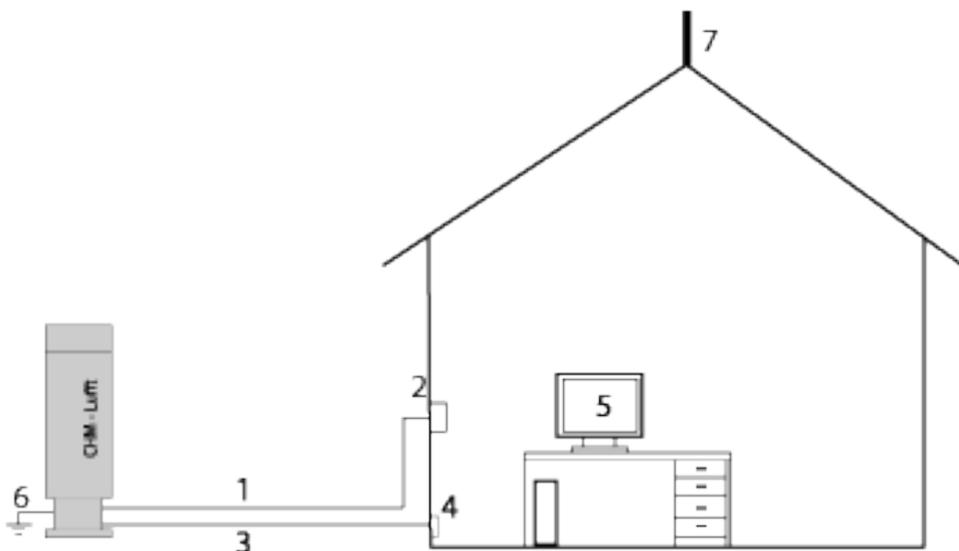
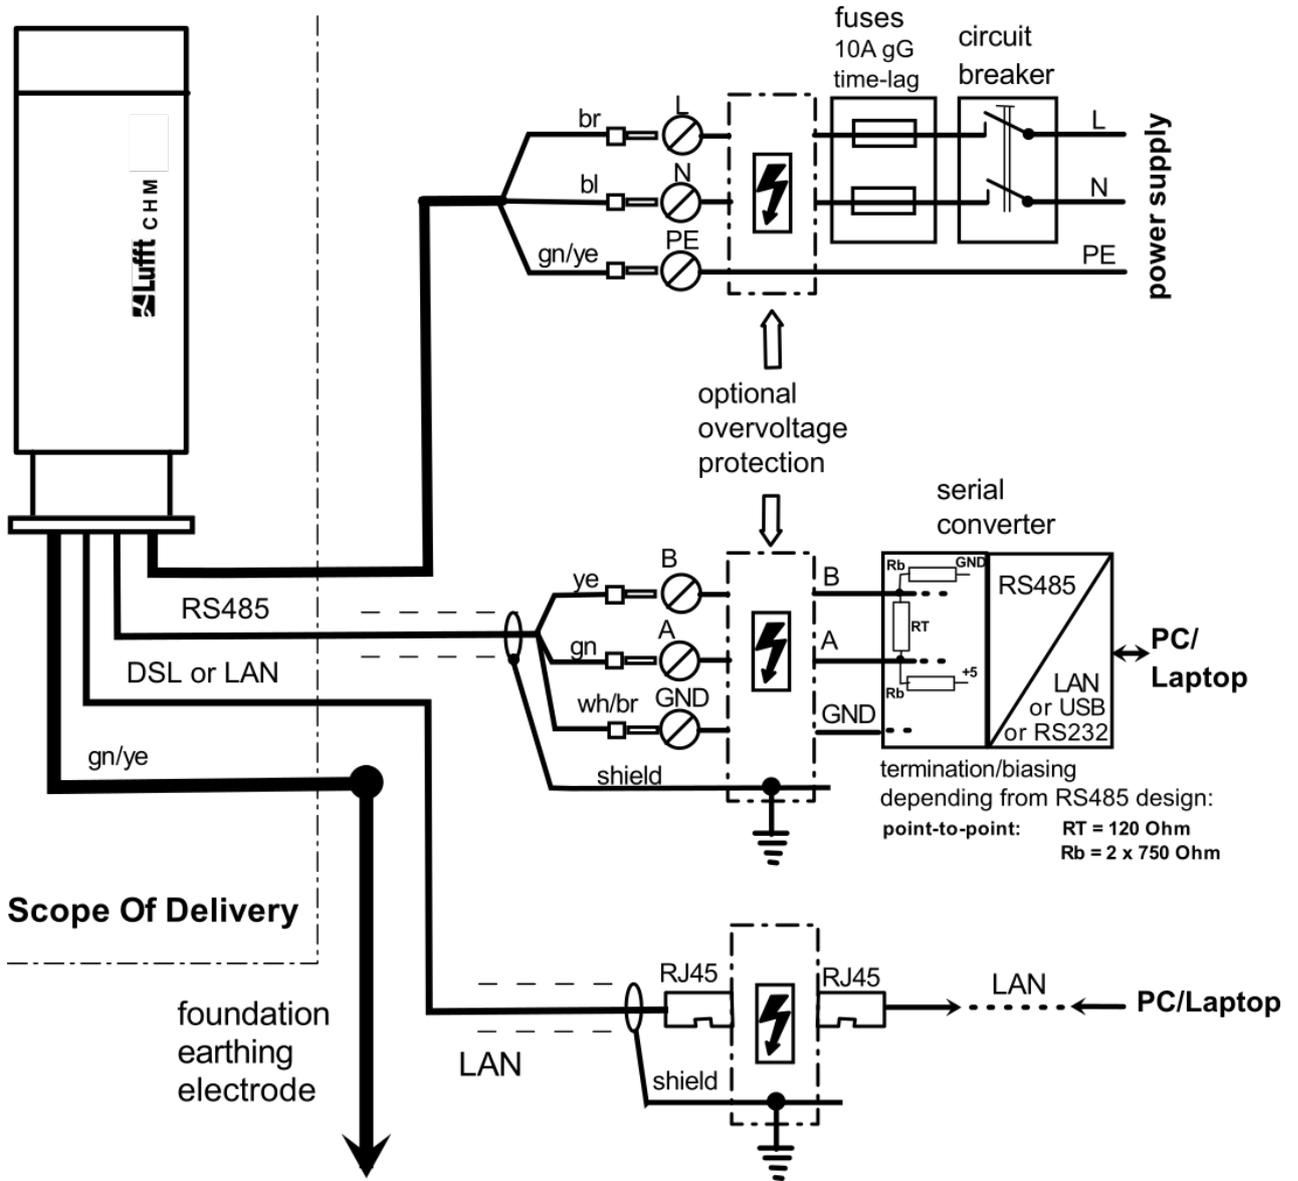

Figure 12 Schematic sketch of the electrical installation.
Figure 15 Electrical installation CHM 8k
Figure 12 shows a schematic sketch of the electrical installation of the CHM 8k. The power supply (1) to the device must be connected via an external mains switch (2) which needs to be easily accessible to cut the power to the device when required. It must be marked as belonging to the CHM 8k and a pre-fuse 10A gG time-lag must be used only for 230VAC-devices. The connection box should be installed at a distance of < 3 m. An external lightning conductor (7) must be installed to protect the device from direct lightning strikes. All connections to the device must be made according to the respective country-specific regulations.
The electrical connections to the CHM 8k are specified in more detail in Figure 12 and Figure 15. Connect the mains and data cables as shown in this figure. It is recommended to include external overvoltage protection in all connections to the device to prevent damage to the connection box. Internal lightning protection is provided in the device.